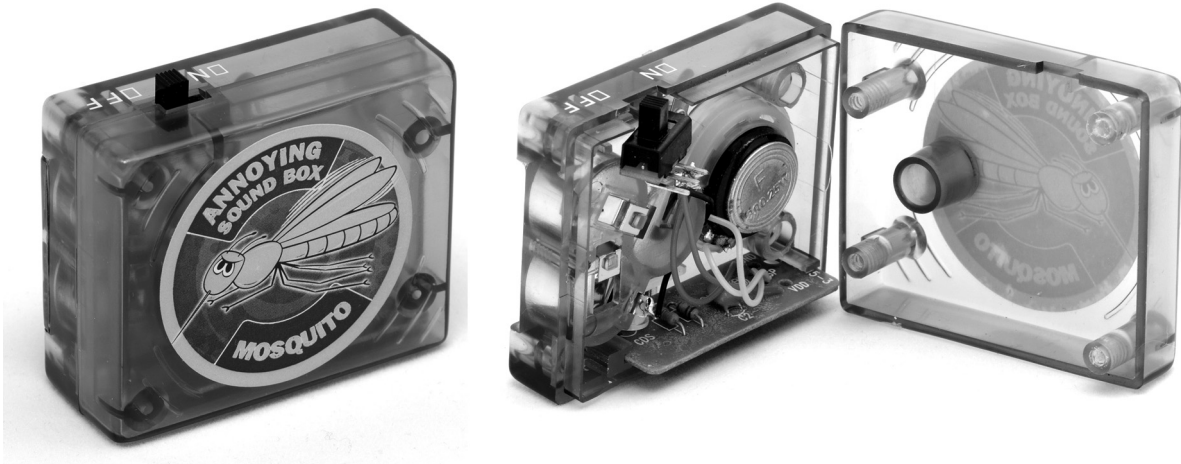

Fig. 1
- 1 Fig. 1 shows a small novelty electronic toy which makes a buzzing insect sound in the dark. The case has been injection moulded from plastics.
Describe how the toy shown in Fig. 1 could be tested for ergonomic suitability.